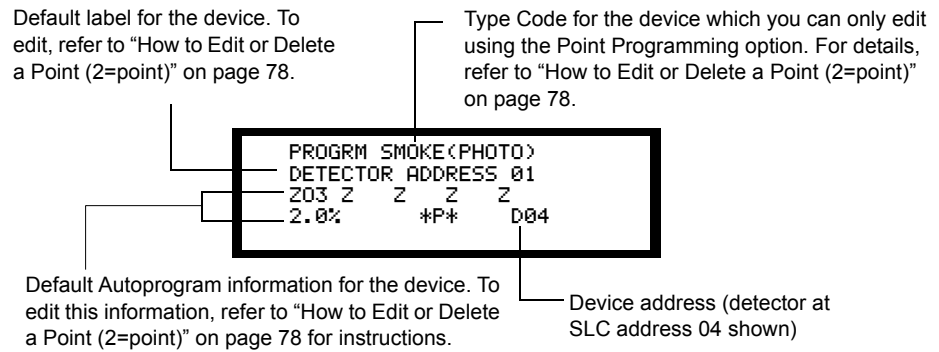

Figure 59 Sample New Device Screen
- When finished identifying SLC devices, the control panel displays information for the new detector at SLC address 04 on the LCD display as shown in Figure 59.